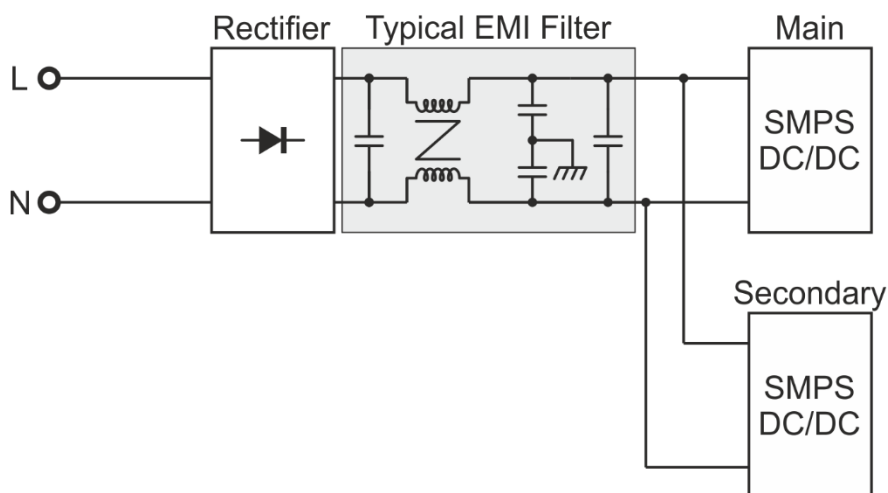
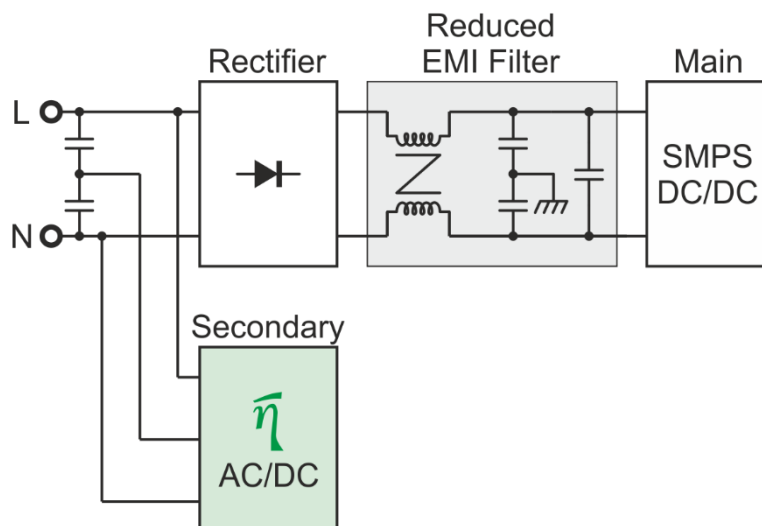

Figure 2
Figure 4
- The second one is to connect the EMI filter between the AC to DC converter as shown in Figure 2.
Figure 4 describes an implementation of Eta-Bar's technology as a secondary power supply, corresponding to the second topology (Figure 2).